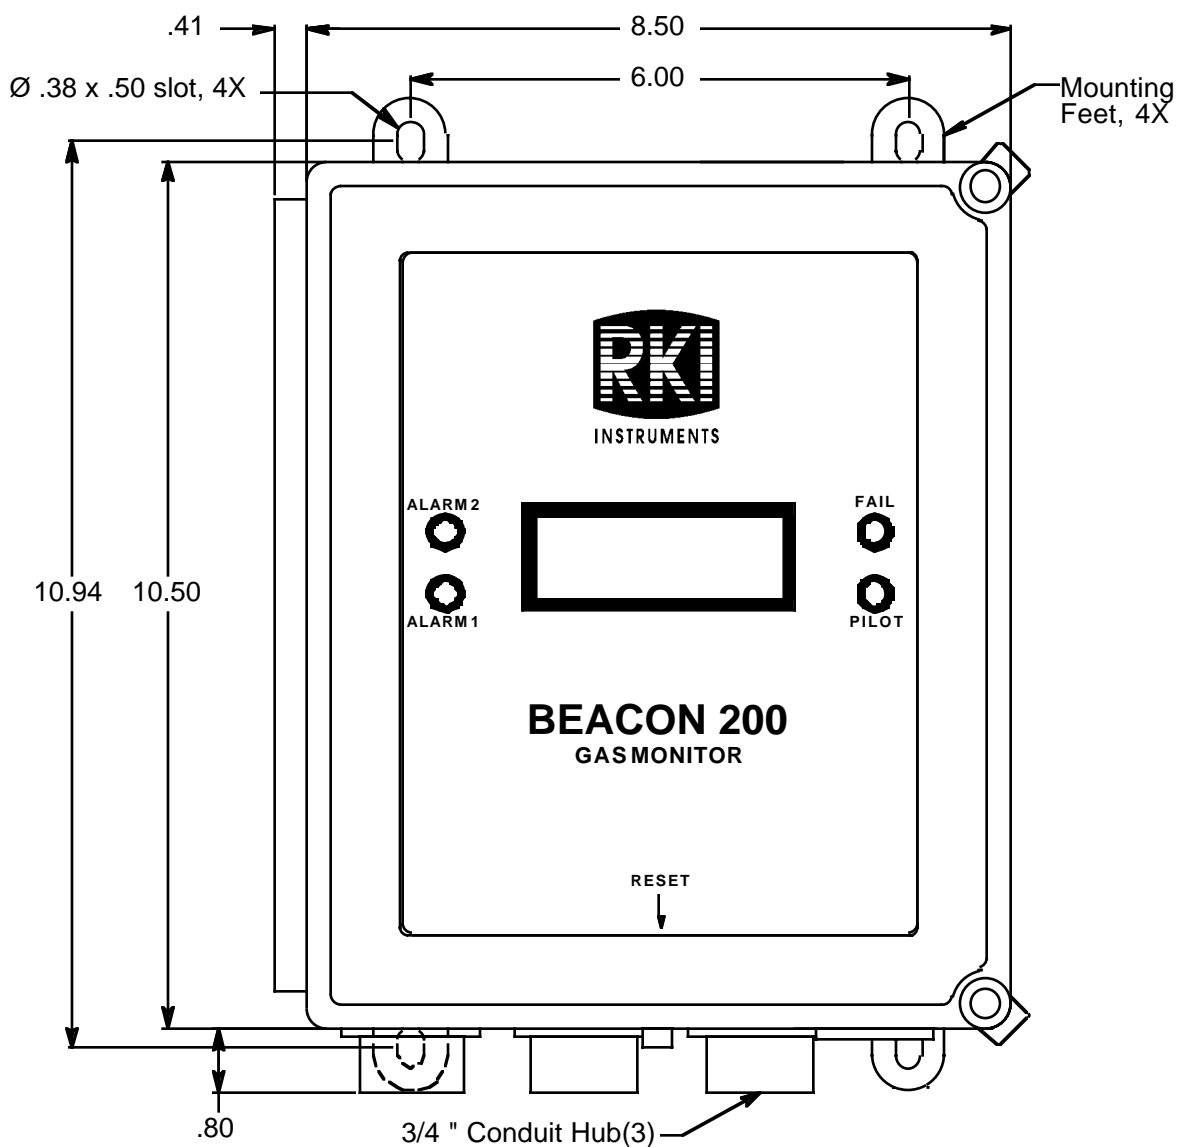

Figure 4. Beacon 200 Gas Monitor Outline and Mounting Dimensions
4. The Beacon 200 is shipped with the mounting feet positioned behind the housing. Loosen the screws that secure the feet to the housing, rotate the feet to their mounting position (as shown in Figure 4), then tighten the screws.
5. Insert 1/4 in. or 5/16 in. screws through the slots in the mounting feet at each corner of the housing to secure the housing to the mounting surface (see Figure 4).